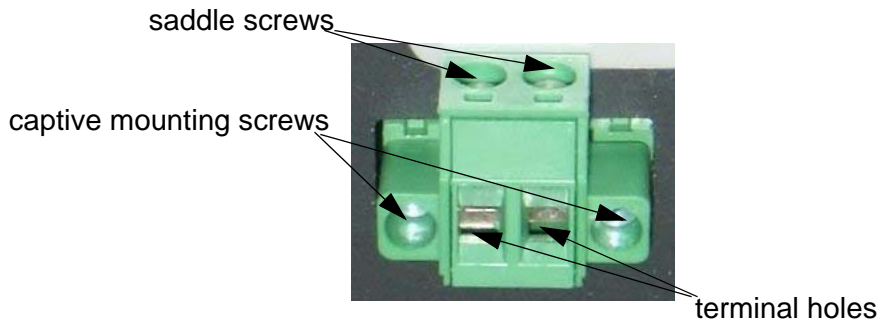

Figure 2-9. Non-Polarized Power Input
- multi-mode (MM) fiber cables defined by the Telcordia Technologies General Recommendation 20-CORE standard
- cable firmly attached to the terminal holes of the non-polarized power unit, as illustrated in Figure 2-9.